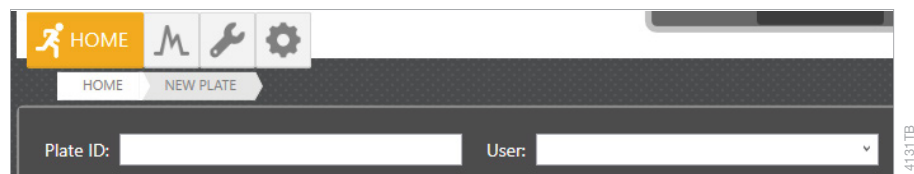

Figure 5. 'Plate ID' and 'User' fields of the plate screen.
2. Use the default Plate ID that includes date and time or enter information into the 'Plate ID' field (Figure 5).
3. If desired, enter user information into the 'User' field (Figure 5).
Note: The 'User' field is a user-defined section that can be used to search or filter previously created or completed plates (refer to the *Spectrum CE System Operating Manual #TMD052* for information on reviewing plate records). Previously entered user information is available via the drop-down option on the right side of the field (Figure 5).